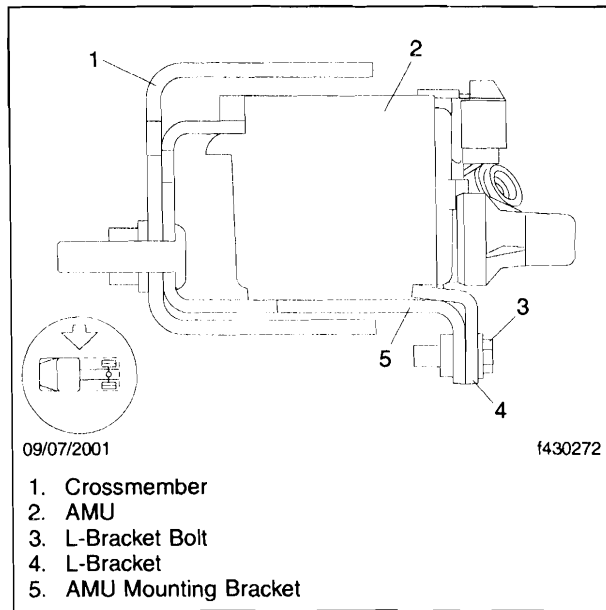

Fig. 2, Air Management Unit (AMU)
6. Loosen the bolts on the L-bracket that secures the AMU to the mounting bracket. See **Fig. 2**. This will allow the AMU to separate, allowing for easy removal of the module.